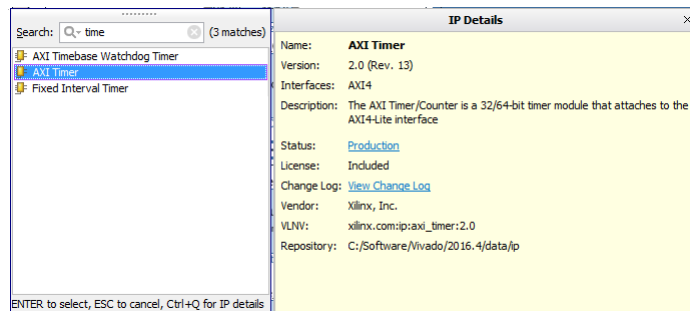

Figure 16: Adding a timer IP
2. As shown in Figure 16, type **time** in the Search field, select **AXI Timer** and press the **Enter** key.